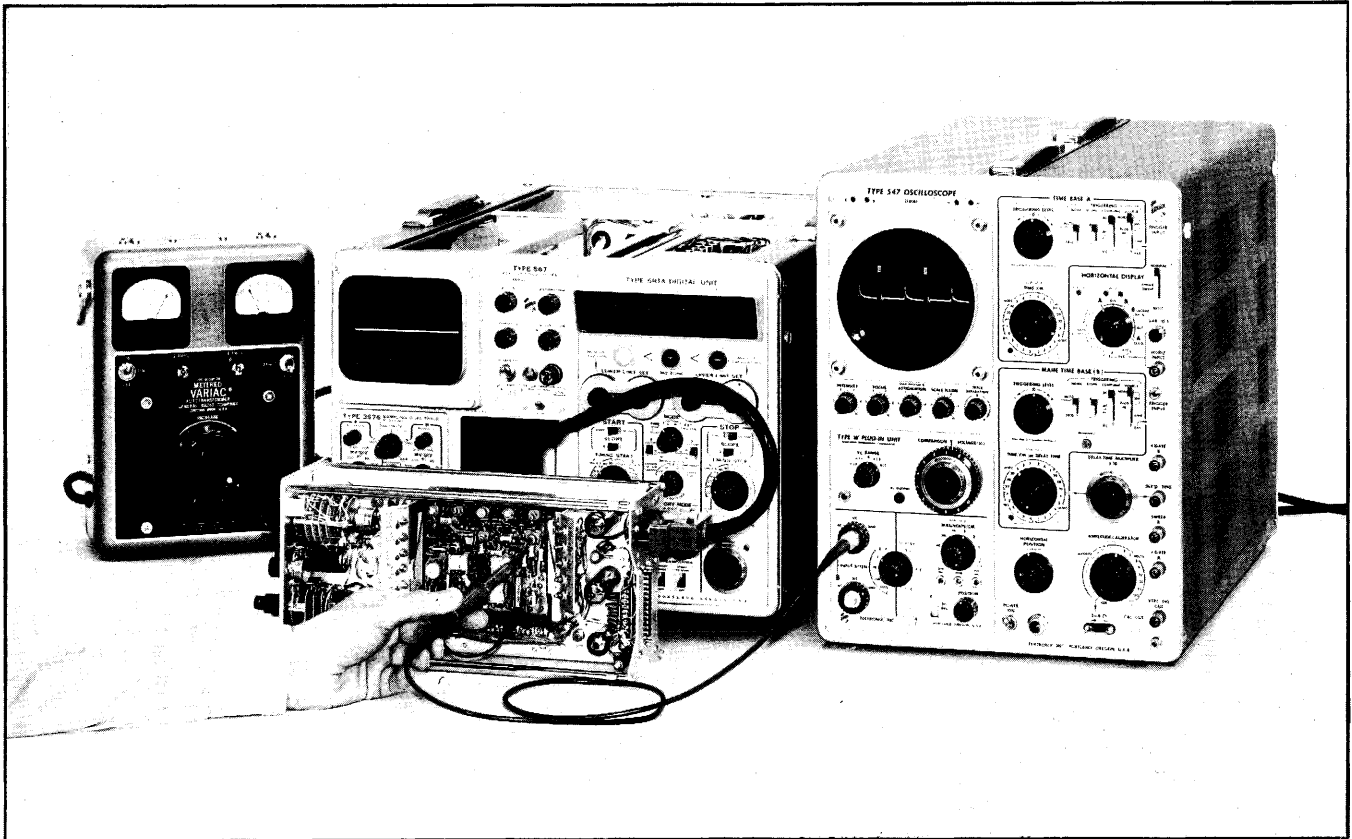

Fig. 5-5. Step 3 test setup for adjusting TRIGGER SENS RANGE control, R16.
a. Set up the equipment and make the connections shown in Fig. 5-5. Set the test oscilloscope no-signal trace level